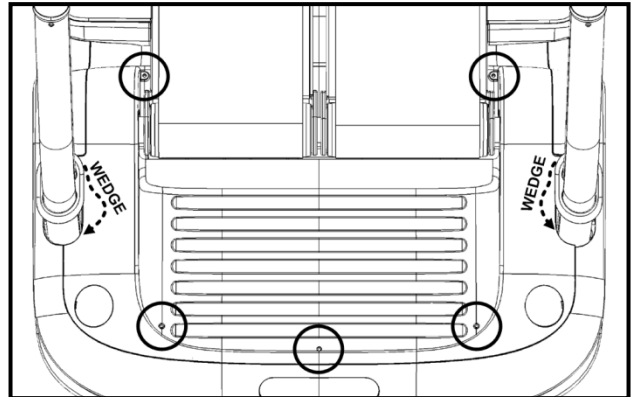

Fig. 26.
24. Mount the rear step shroud (Fig. 26) and wedge the left & right handrail grommets into the available open space between the shrouds. Secure the rear step shroud by installing the corresponding five phillips head screws at the circled locations.